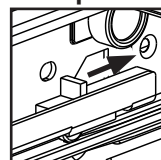

Fig. 36
- **To remove a drawer slide (center slide containing rollers):** Open the stop levers (one on each side) by sliding them to the rear. See Fig. 36. Lift up on the drawer slide slightly, then pull to disengage the drawer slide. **WARNING! Be sure to close the stop levers when reinstalling the drawer.** Drawer slides do not require lubrication, but drawer slides should be kept clean and free of food.